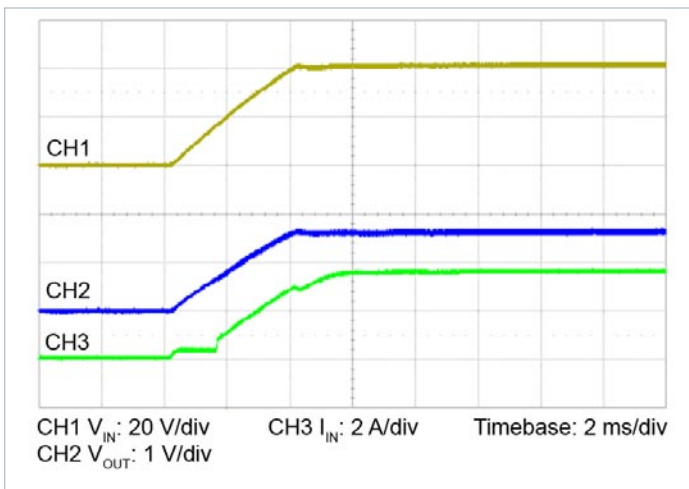

Figure 12 — Start up from application of V_{IN} ; VCC pre-applied $C_{OUT} = 3000\ \mu\text{F}$
- **Normal start up operation (VCC applied prior to Input voltage):** In this case the controller is active prior to ramping the input voltage. In this mode of operation, EN signal and CM signal appear when VCC crosses its under-voltage point. TM signal appearance is delayed by about T_{ON} time from EN signal. CM signal goes to 0 V when TM signal appears with no input voltage applied. It is recommended to apply the input voltage after TM signal appearance. When the input voltage is applied, the VTM module output voltage will track the input (See Figure 12). The inrush current is determined by the input voltage rate of rise, input and output capacitance. If the VCC voltage is removed prior to the input reaching 0 V, the VTM may shut down. This mode of operation is recommended when this VTM operates with upstream regulator such as PRM. Timing diagram shows the power up sequence for such mode of operation.